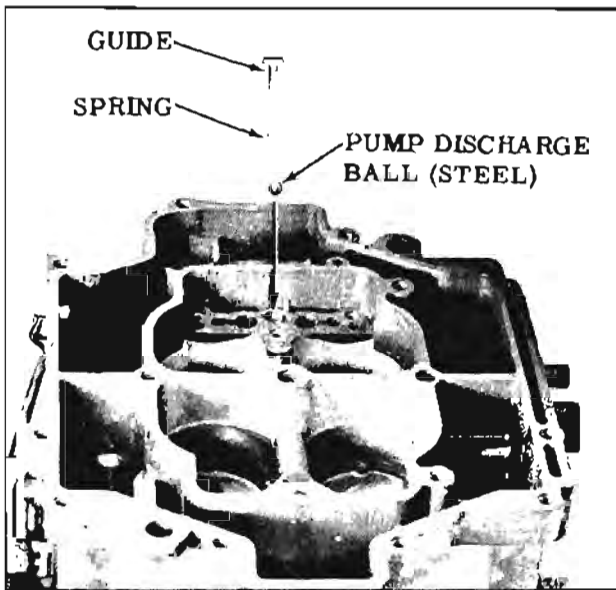

Fig. 9-177 Pump Discharge Spring Guide
13. Remove the small "T" shaped pump discharge spring guide with needle nose pliers, then remove the small spring and steel ball. (Fig. 9-177)